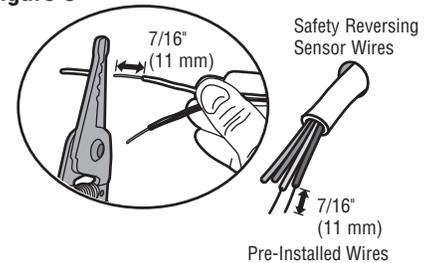

Figure 9
3. Connect the pre-installed wires to the sensor wires with wire nuts making sure the colors correspond for each sensor (Figure 9).